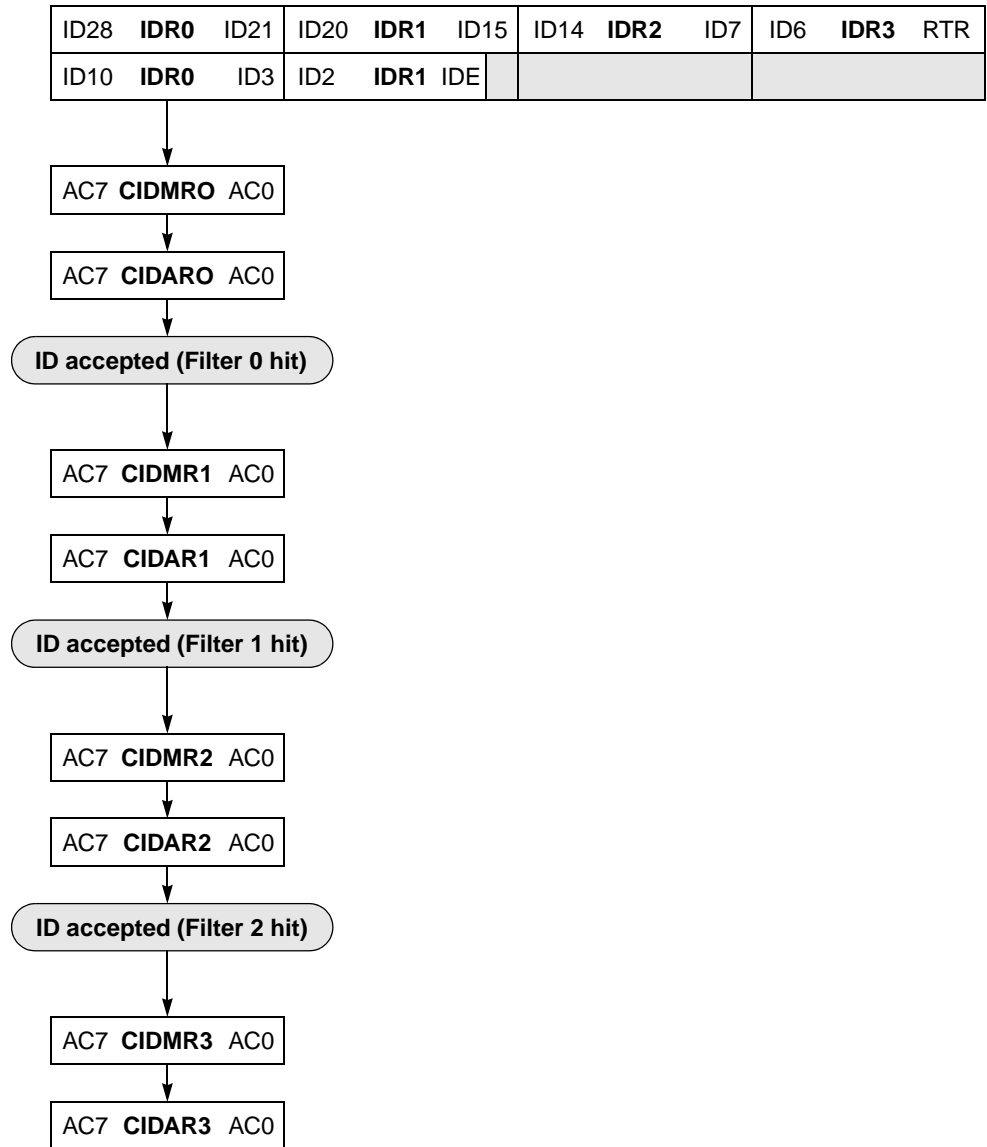

Figure 16-5. 8-Bit Maskable Acceptance Filters
3. Eight identifier acceptance filters, each to be applied to the first eight bits of the identifier. This mode implements eight independent filters for the first eight bits of a CAN 2.0A compliant standard identifier or of a CAN 2.0B compliant extended identifier. **Figure 16-5** shows how the first 32-bit filter bank (CIDAR0–CIDAR3, CIDMR0–CIDMR3) produces filter 0 to three hits. Similarly, the second filter bank (CIDAR4–CIDAR7, CIDMR4–CIDMR7) produces filter 4 to seven hits.